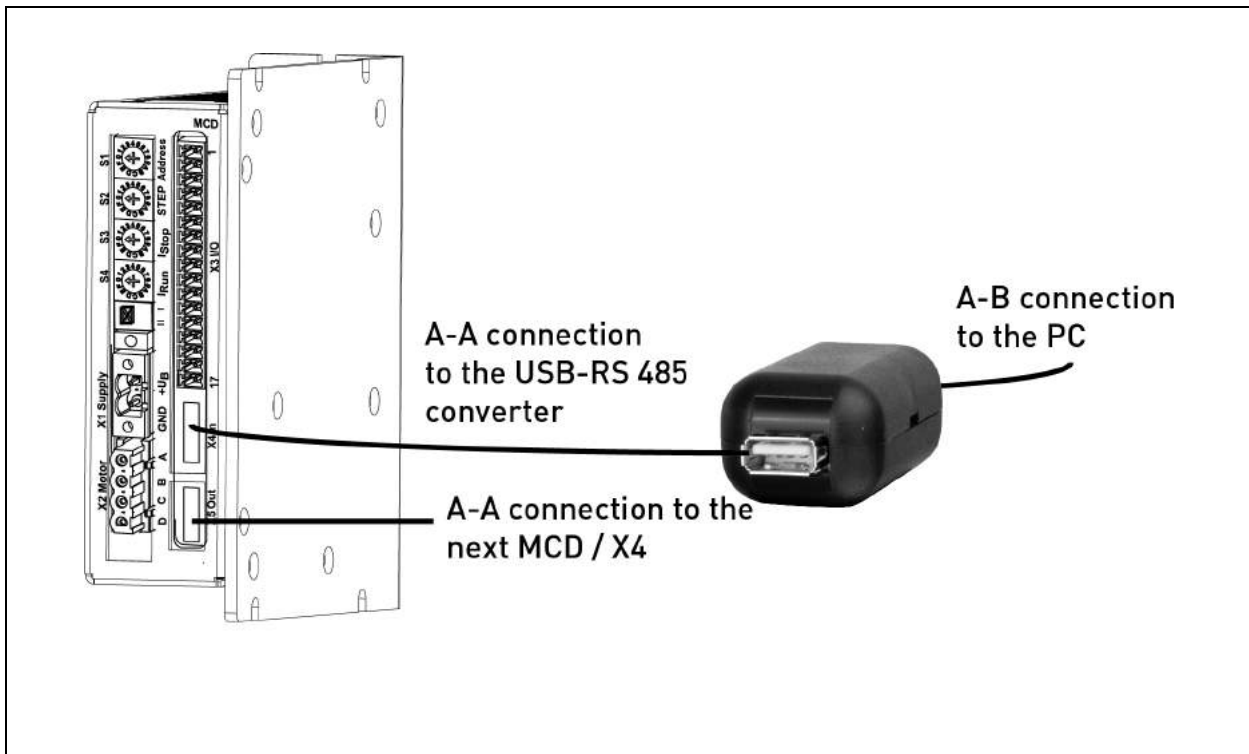

Fig. 30: Power stage MCD with phytron USB-RS485-converter
The phytron USB-RS485-converter is connected to X4 (IN) by a short A-A cable (20 cm). The first of several MCD axes is addressed by 0, to which the USB-RS485-converter is plugged. All other power stages are addressed continuously (fig. 30).